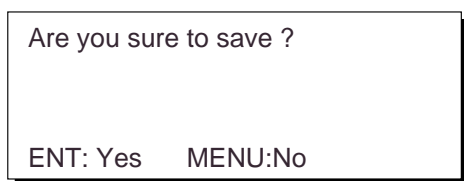

Figure 8-21
- 10) Press ▶ to select Start. The message shown in Figure 8-21 appears.